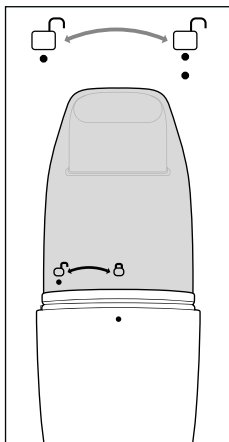

Fig. 6
1. When opening the dirt container **3**, pay attention to the ● markings under the □ symbol on the dirt container **3** and on the edge of the appliance. Hold the appliance by the handle **9** and rotate the dirt container **3** until the two markings are aligned with each other (see Fig. 6).
6. Place the dirt container **3** back on the appliance. Make sure that the two ● markings under the □ symbol on the dirt container **3** and on the edge of the appliance are aligned with each other (see Fig. 6). Rotate the dirt container **3** until the ● marking on the edge of the appliance is under the □ symbol on the dirt container **3** and the dirt container **3** locks audibly into the appliance.
7. Place the dirt container **3** back on the appliance. Make sure that the two ● markings under the  symbol on the dirt container **3** and on the edge of the appliance are aligned with each other (see Fig. 6). Turn the dirt container **3** until the ● marking on the edge of the appliance is under the  symbol on the dirt container **3** and the dirt container **3** locks audibly into the appliance.